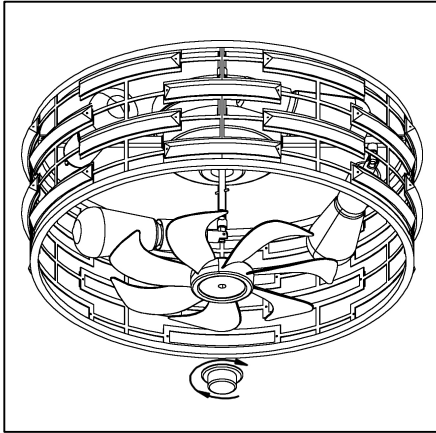

Fig6
1. Turn right to loosen the nut and remove the blade. (Fig6)